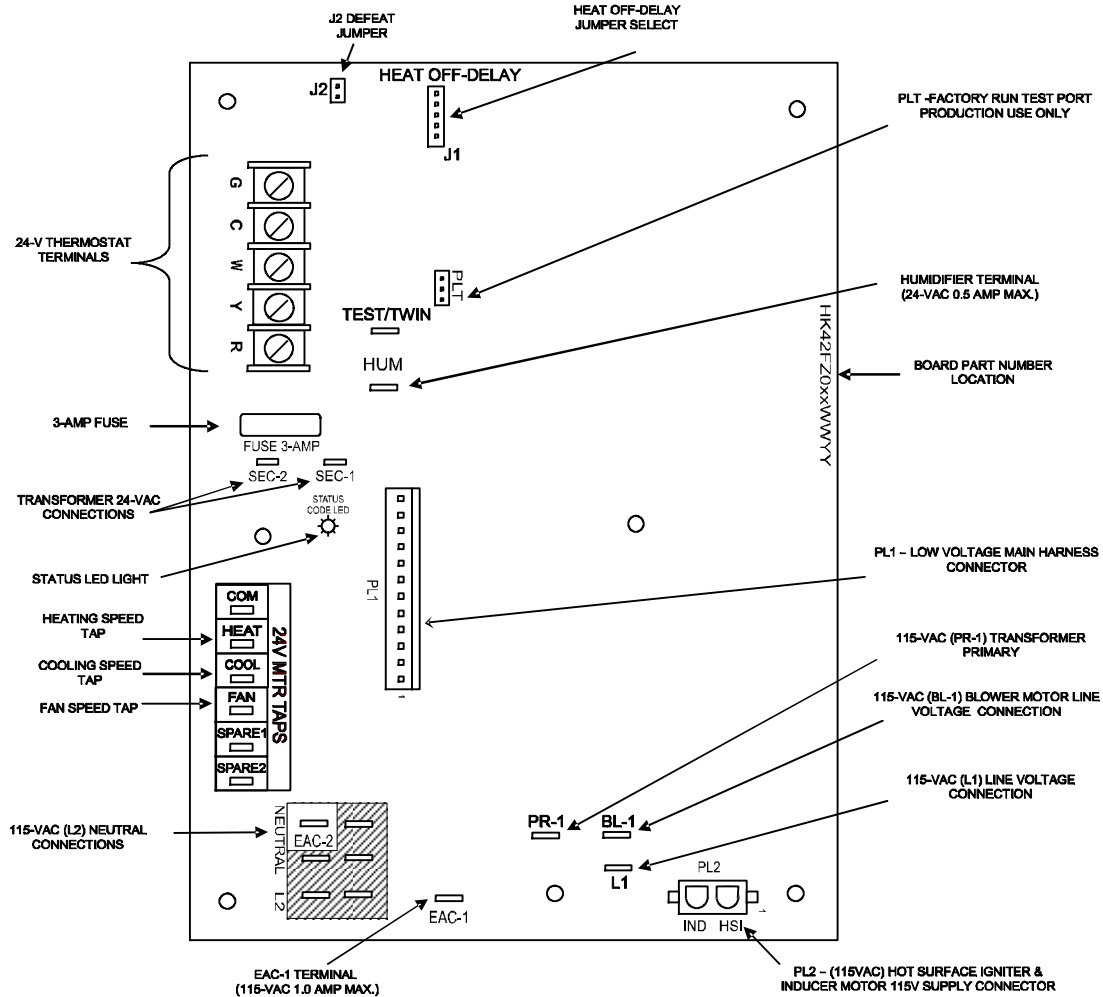
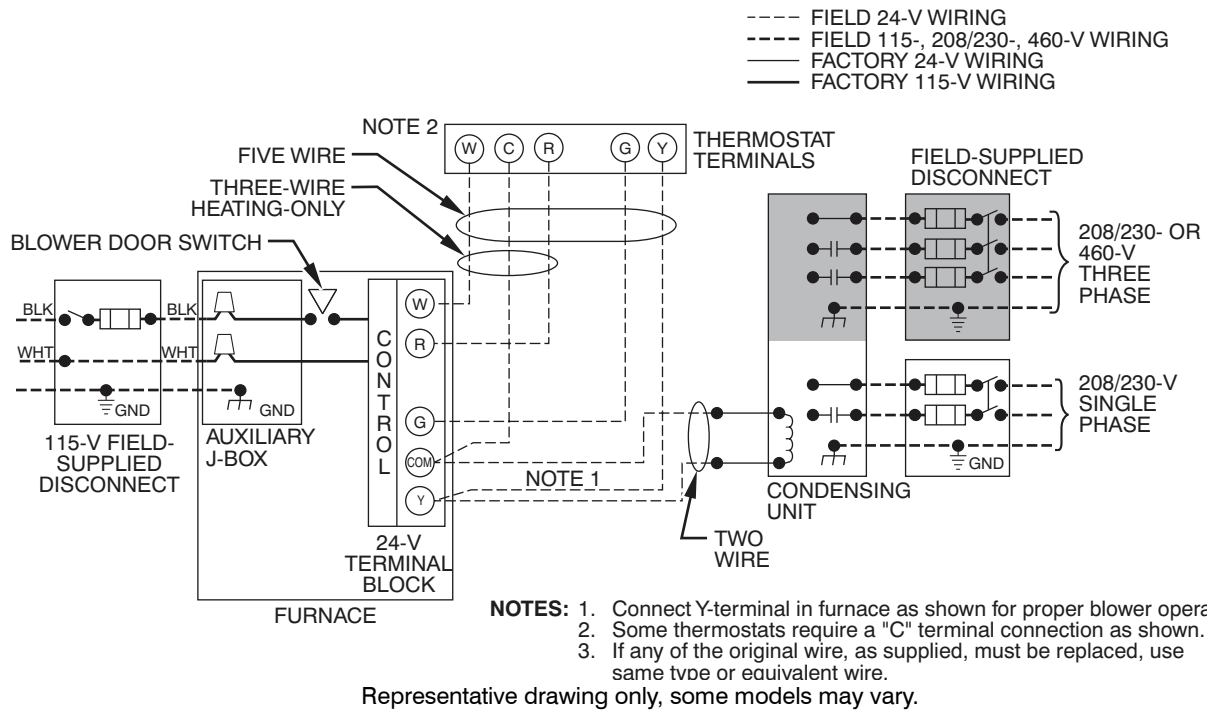

Fig. 24 - Furnace Control
Fig. 25 - Heating and Cooling Application Wiring Diagram with 1-Stage Thermostat
See Fig. 25 for field wiring diagram showing typical field 115-v wiring. Check all factory and field electrical connections for tightness.
12. Complete electrical box wiring and installation. Connect line voltage leads as shown in Fig. 25. Use best practices (NEC in U.S. for wire bushings, strain relief, etc.)
5. Connect line voltage leads as shown in Fig. 25.
Make field 24-v connections at the 24-v terminal strip. (See Fig. 25.) Connect terminal Y as shown in Fig. 24 for proper cooling operation. Use only AWG No. 18, color-coded, copper thermostat wire.
Connect an accessory Electronic Air Cleaner (if used) using 1/4-in female quick connect terminals to the two male 1/4-in quick-connect terminals on the control board marked EAC-1 and EAC-2. The terminals are rated for 115 VAC, 1.0 amps maximum and are energized during blower motor operation. (See Fig. 24.)
Connect an accessory 24 VAC, 0.5 amp. maximum humidifier (if used) to the 1/4-in male quick-connect HUM terminal and COM-24V screw terminal on the control board thermostat strip. The HUM terminal is energized when the pressure switch closes during a call for heat. (See Fig. 24.)